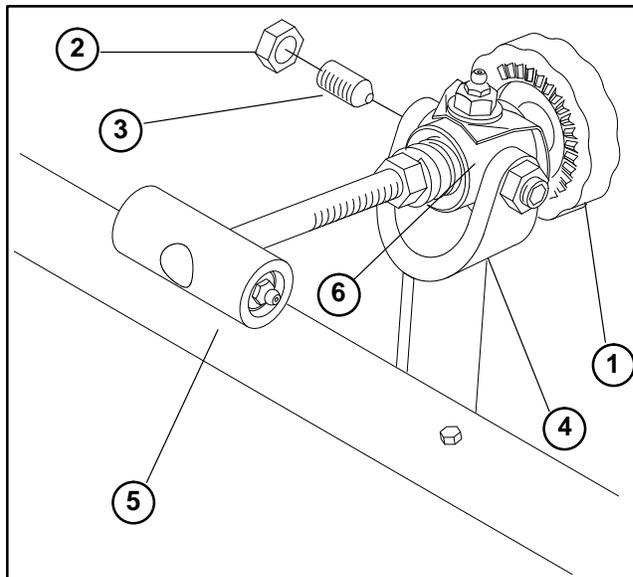
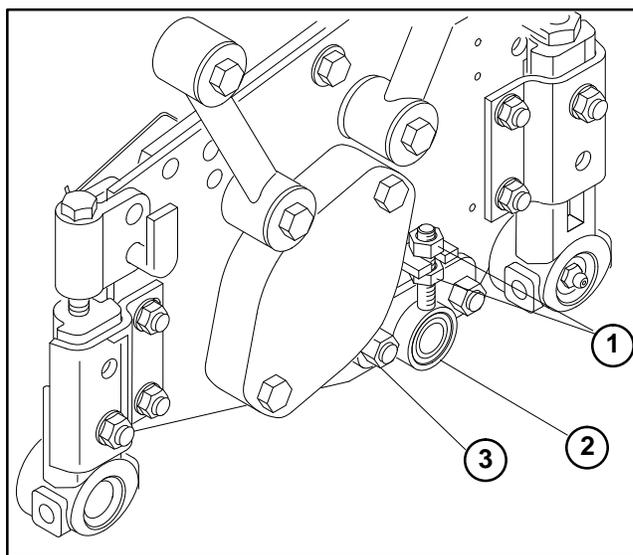
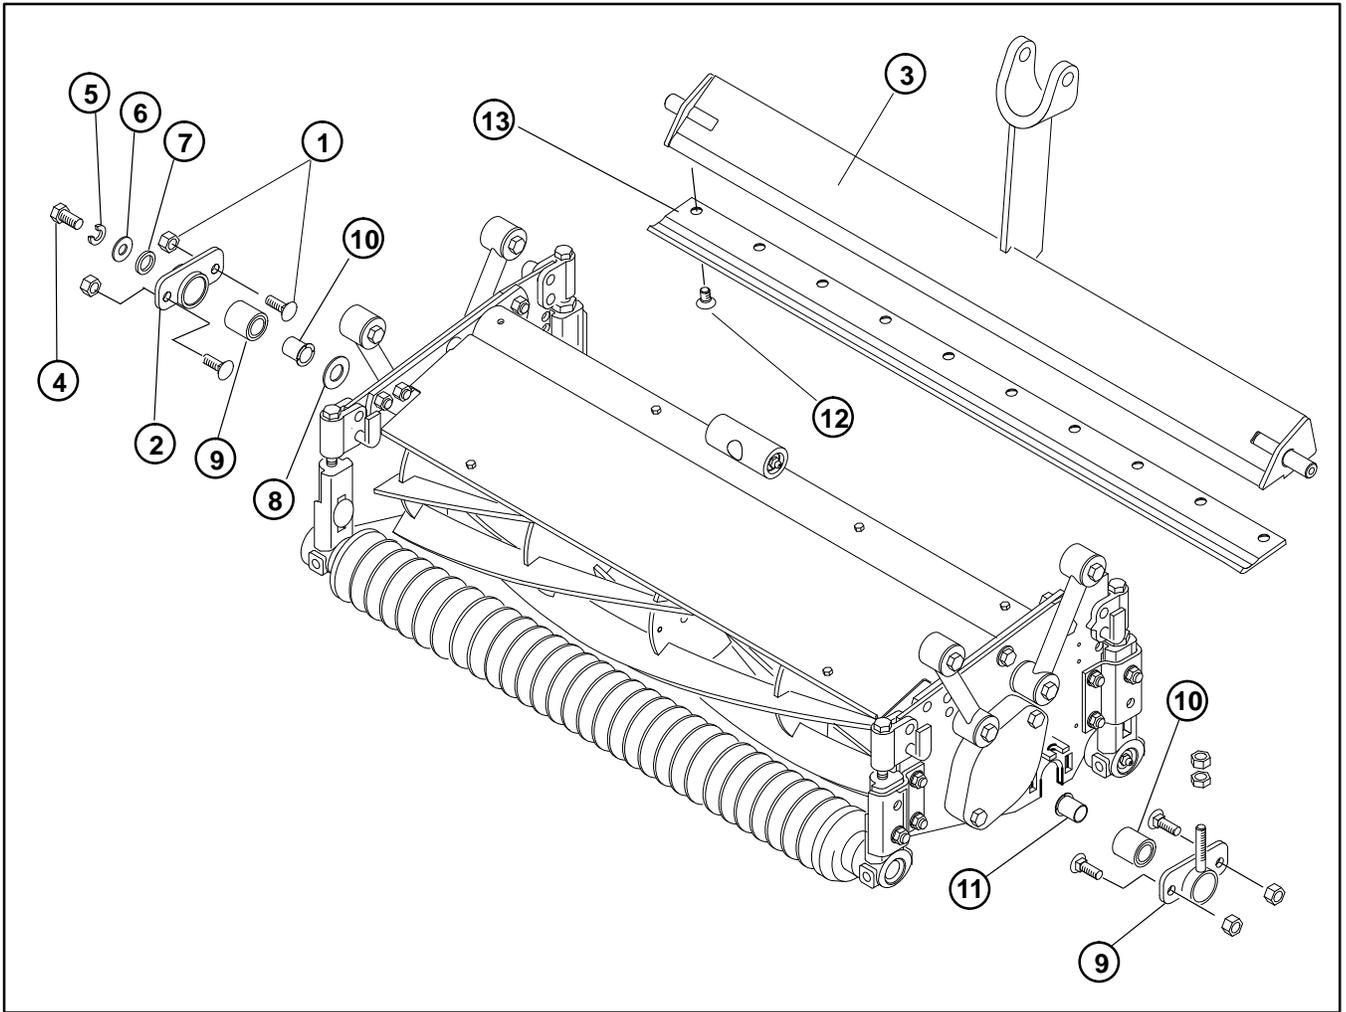

Figure 19
Figure 20
Figure 21
## Bedbar Removal and Installation (Fig. 19 through Fig. 21)
1. Turn bedknife adjusting handle to loosen bedknife to reel contact (Fig. 19).
2. Remove both jam nuts and hex socket set screws from the bedbar yoke (Fig. 19)
3. Unscrew adjusting handle (left-hand threaded) until it is removed from the cutting unit (Fig. 19).
4. Loosen both adjusting lock nuts on the adjusting housing (Fig. 20).
5. Remove both carriage bolts and nuts from the adjusting housing (Fig. 20).
6. Remove both carriage bolts and nuts from the bedbar housing. Remove bedbar from the cutting unit (Fig. 21).
7. Remove capscrew, lock washer, flat washer, and spacer from the end of the bedbar (Fig. 21).
8. Remove adjusting housing and bedbar housing from the bed bar. Remove bedbar washer (Fig. 21).
1. Inspect flanged bushings and bushing assemblies for wear; replace if necessary (Fig. 21).
2. Clean and apply anti-seize lubricant to both bedbar pivots. Install bedbar washer on the bedbar (Fig. 21)
3. Install bedbar adjusting housing and bedbar housing on the bed bar. Reinstall spacer, flat washer, lock washer, and cap screw on the bedbar (Fig. 21).
5. Secure bedbar housing to the cutting unit with both carriage bolts and nuts (Fig. 21). Secure adjusting housing to the cutting unit with both carriage bolts and nuts (Fig. 20).
6. Tighten both adjusting lock nuts on the adjusting housing (Fig. 20).
7. Install adjusting handle on the cutting unit by screwing it in (Fig. 19).
8. Apply Never Seize to both hex socket set screws. Seat both hex socket set screws into the bedbar yoke and tapered seats of the pivot hub with a slight preload (Fig. 19).